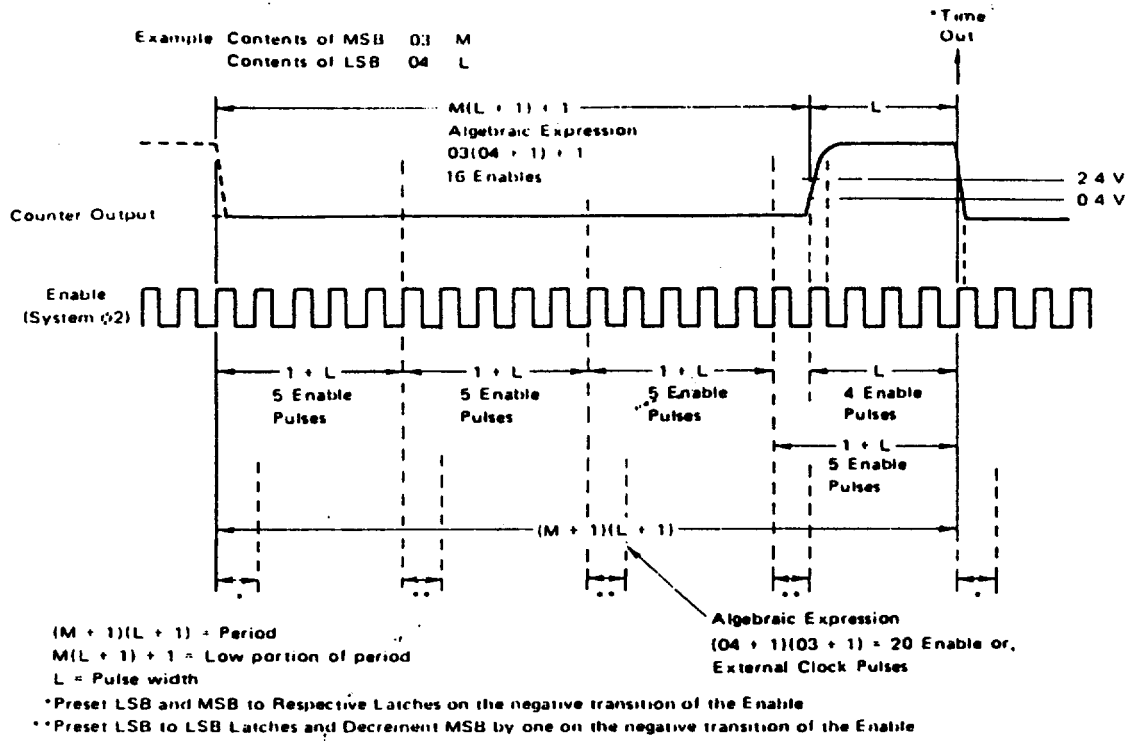

Figure 11: Timer output waveform example (continuous dual 8-bit mode using internal enable).
In the dual 8-bit mode (CRX2 = 1) [refer to the example in Figure 9 and Tables 10 and 11] the MSB decrements once for every full countdown of the LSB + 1. When the LSB = 0, the MSB is unchanged; on the next clock pulse the LSB is reset to the count in the LSB latches, and the MSB is decremented by 1 (one). The output, if enabled, remains low during and after initialization and will remain low until the counter MSB is all zeroes. The output will go high at the beginning of the next clock pulse. The output remains high until both the LSB and MSB of the counter are all zeroes. At the beginning of the next clock pulse the defined time out (TO) will occur and the output will go low. In the dual 8-bit mode the period of the output of the example in Figure 11 would span 20 clock-pulses as opposed to 1546 clock pulses using the normal 16-bit mode.